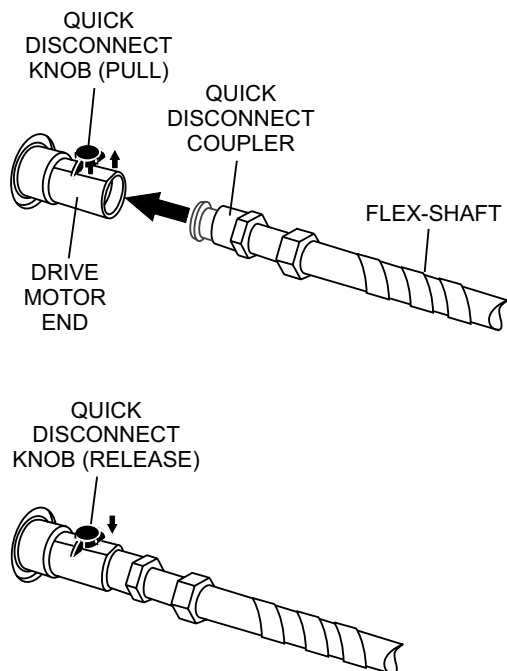

Figure 5. Connecting Flexshaft to Motor
1. Pull upward on drive motor quick-disconnect knob. Insert coupler-end of flexshaft into drive motor housing. See Figure 5.